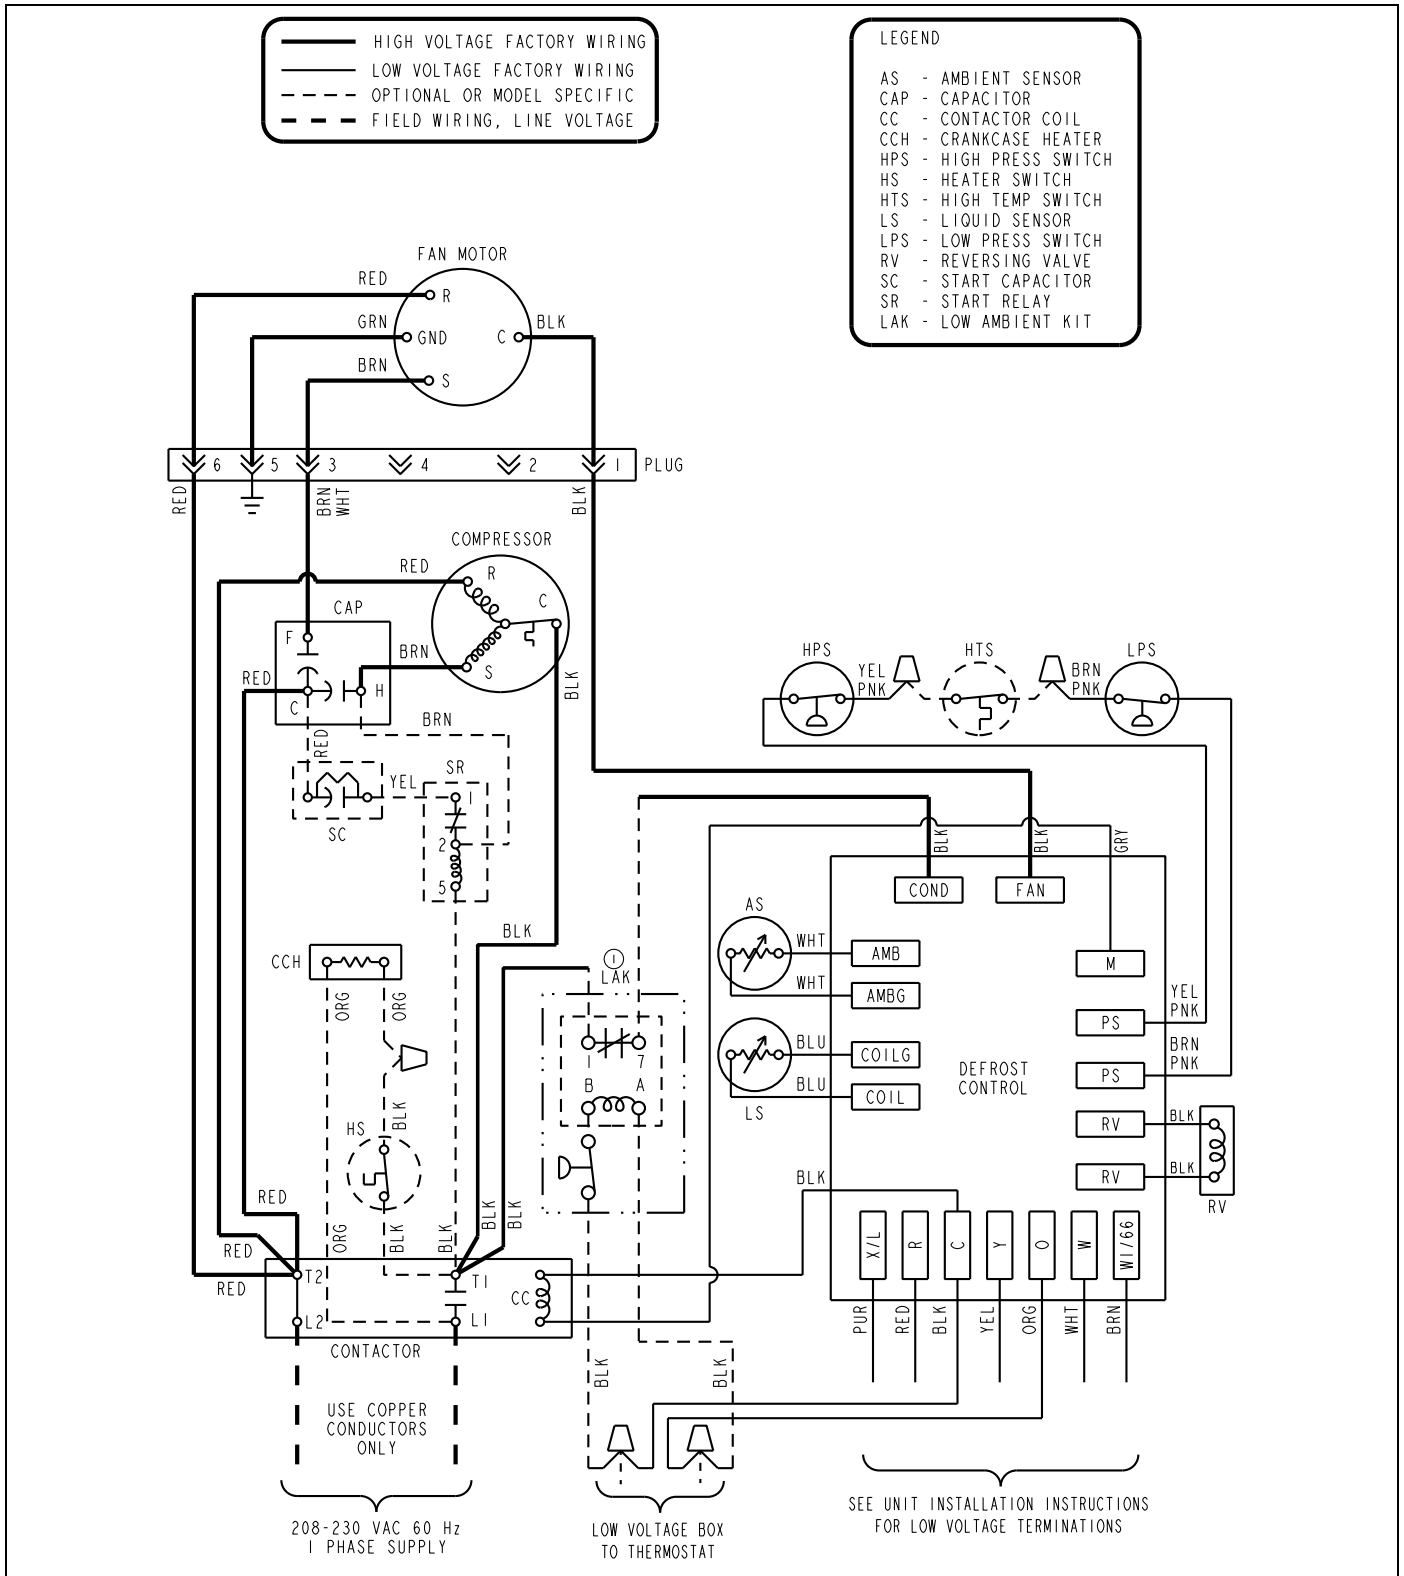

FIGURE 3: Wiring Connections for Heat Pump Units
- b. For 1 and 3 phase HP, use Figure 3*.